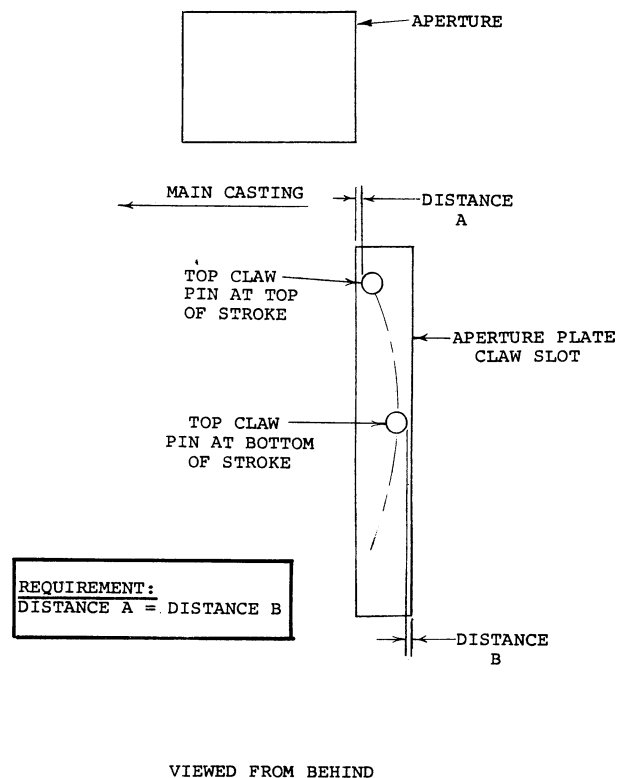
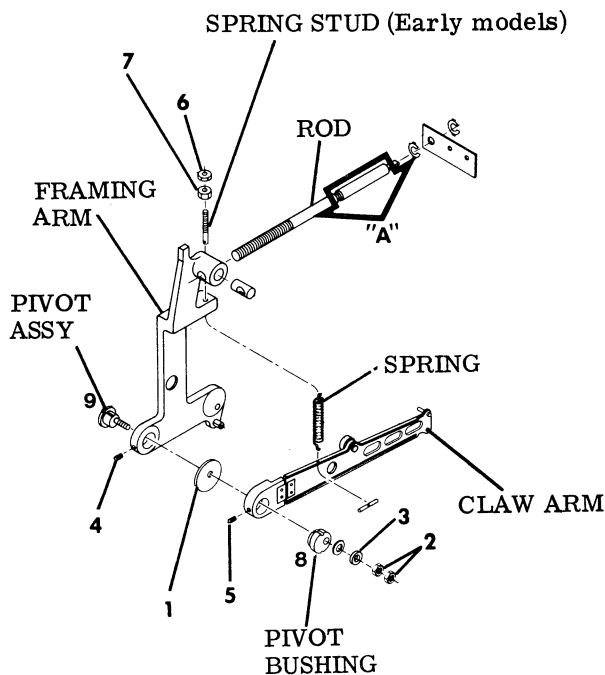
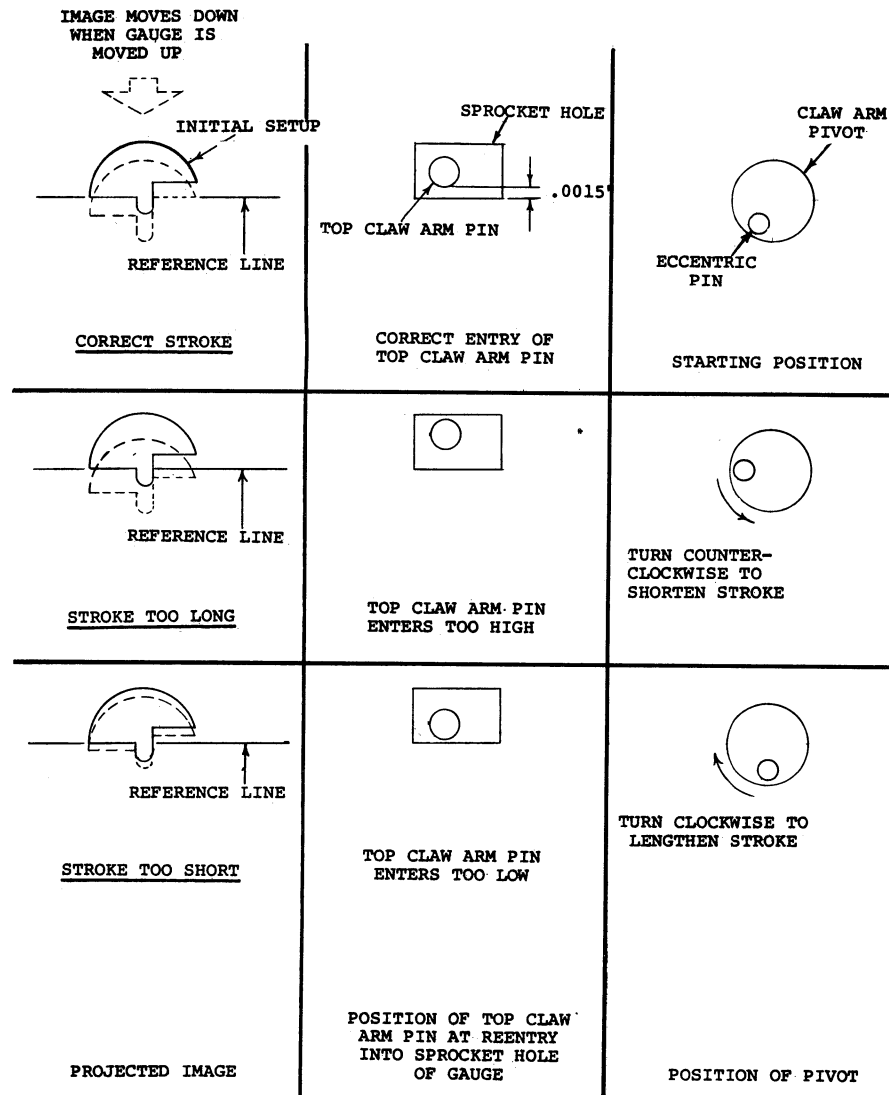

Figure 4-7. SIDE CLEARANCE
Figure 4-8. CLAW ARM
Figure 4-11. CLAW PULL DOWN STROKE ADJUSTMENT
Before attempting any adjustments, manually rotate the inching knob to make sure the Claw Arm Pins do not strike the sides of the Aperture Plate Claw Slot. At the top of the Claw Arm Stroke, the Top Claw Arm Pin will be nearer the inside edge of the Aperture Plate Slot (Figure 4-7). At the bottom of its travel, this Pin will be nearer to the outside edge of the Aperture Plate Slot. Loosen Screw (5) and adjust Bushing (8) (Figure 4-8) so these two distances are equal. (Removing Lamphouse Cover and viewing Pins from behind the Aperture Plate aids in this adjustment.)
- m. Tighten Screws (1) and (2) to 140-inch/ounces of torque (very tight) and replace Screw (3) and tighten securely.
2. Claw Pull Down Stroke and Side Clearance (Figures 4-7 / 4-11) These Two Adjustments are interdependent and must be adjusted at the same time. If either one is adjusted, the other must be checked and adjusted as necessary until requirements for both can be met.
A good starting position for the Pivot (9) (Figure 4-8) places its Eccentric Pin at about 7 O'Clock when viewed from front of Projector (See Figure 4-11). The notch in Bushing (8) (Figure 4-8) should be slightly below the notch in Pivot (9) so an imaginary line drawn across the top of Bushing notch lines up with bottom of Pivot notch.
holes of film. When Framing is correct, the Top Claw Arm Pin should be the same distance from the inside edge of the sprocket hole at the top of its stroke as it is from the outside edge of the sprocket hole at the bottom of its stroke (Figure 4-7). Loosen Screw (5) and adjust Bushing (8) (Figure 4-8) so these two distances are equal. Remove film from Projector after proper Framing and Side Clearance are established.
- h. Adjust by placing Shuttle Cam Adjusting Tool (ST-5884) on Claw Arm Pivot (9) (Figure 4-8), loosening Screws (4) and (5) and rotating Pivot (9) and Bushing (8) the same amount in the same direction simultaneously. Turn counterclockwise (as viewed from front of projector) to shorten stroke and clockwise to lengthen stroke. (Figure 4-11)
The Top Claw Arm Pin should be the same distance from the inside edge of the Gauge sprocket hole at the top of its stroke as it is from the outside edge of the Gauge sprocket hole at the bottom of its stroke (Figure 4-7).
Loosen Screw (5) and adjust Bushing (8) (Figure 4-8) So these two distances are equal.
3. Claw Pull Down Stroke and Side Clearance (Figures 4-7 thru 4-11)
A good starting position for the Pivot (9) (Figure 8) places its Eccentric Pin at about 7 O'Clock when viewed from front of Projector (See Figure 4-11). The notch
Before attempting any adjustments, manually rotate the inching knob to make sure the Claw Arm Pins do not strike the sides of the Aperture Plate Claw Slot. At the top of the Claw Arm Stroke the Top Claw Arm Pin will be nearer the inside edge of the Aperture Plate Slot (Figure 4-7). At the bottom of its travel, this Pin will be nearer to the outside edge of the Aperture Plate Slot. Loosen Screw (5) and adjust Bushing (8) (Figure 4-8) so these two Distances are equal. (Removing Lamphouse Cover and viewing Pins from behind the Aperture Plate aids in this adjustment.)
- a. Thread an old film in the Projector (do not use a good film for this adjustment) and adjust Framing Knob to eliminate any frame lines at top or bottom of projected image with the Projector running in Forward. If excessive noise results when framing knob is moved, stop machine and check location of Claw Arm Pins in sprocket holes of film. When framing is correct, the Top Claw Arm Pin should be the same distance from the inside edge of the sprocket hole at the top of its stroke as it is from the outside edge of the sprocket hole at the bottom of its stroke (Figure 4-7). Loosen Screw (5) and adjust Bushing (8) (Figure 4-8) so these two distances are equal. Remove film from Projector after proper Framing and Side Clearance are established.
- k. Adjust by placing Shuttle Cam Adjusting Tool (ST-5884) on Claw Arm Pivot (9) (Figure 4-8), loosen - ing Screws (4) and (5) and rotating Pivot (9) and Bushing (8) the same amount in the same direction simultaneously. Turn counter-clockwise (as viewed from front of projector) to shorten stroke
and clockwise to lengthen stroke. (Figure 4-11).
The Top Claw Arm Pin should be the same distance from the inside edge of the Gauge sprocket hole at the top of its stroke as it is from the outside edge of the Gauge sprocket hole at the bottom of its stroke (Figure 4-7). Loosen Screw (5) and adjust Bushing (8) (Figure 4-8) So these two distances are equal.